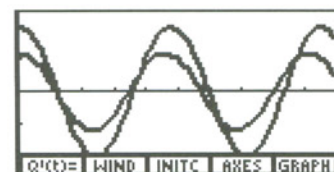

Figure 7.22
4. Plot with axes $x=t$ and $y=Q1$. (Figure 7.22)